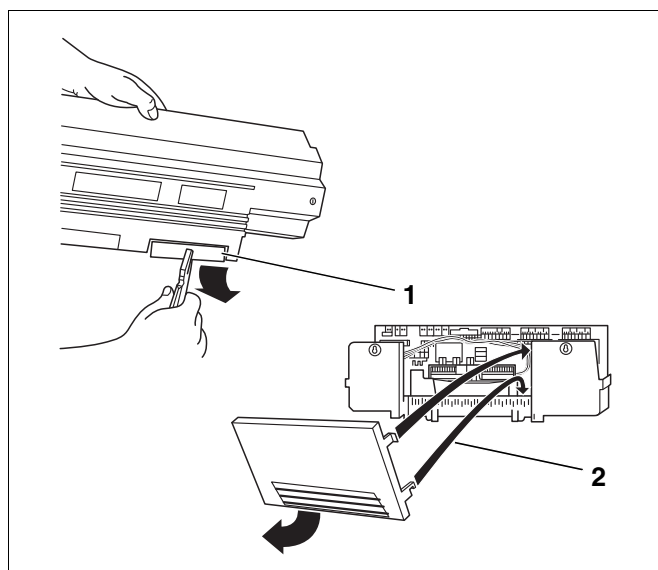

Fig. 61 Preparing the cable entry
- ▶ If necessary, make knock-outs (Fig. 61, [1]) in the rear panel of the cable entry (Logamatic 33xx) or remove the rear panel section (Logamatic 43xx) (Fig. 61, [2]).
- Hook the lower hook on the rear panel section (Logamatic 43xx) into the clip frame and apply pressure at the top until the side hooks click into place (Fig. 61, [2]).